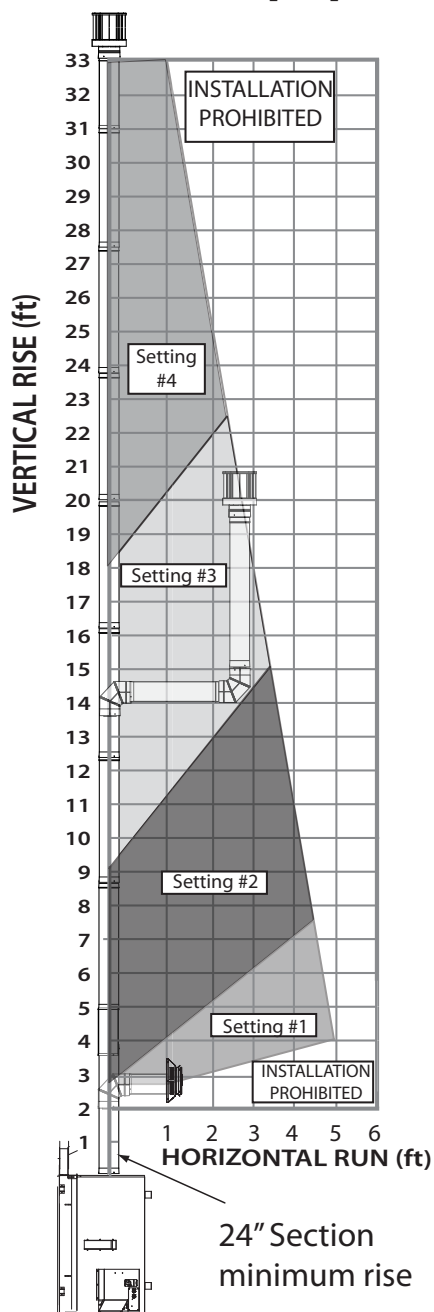
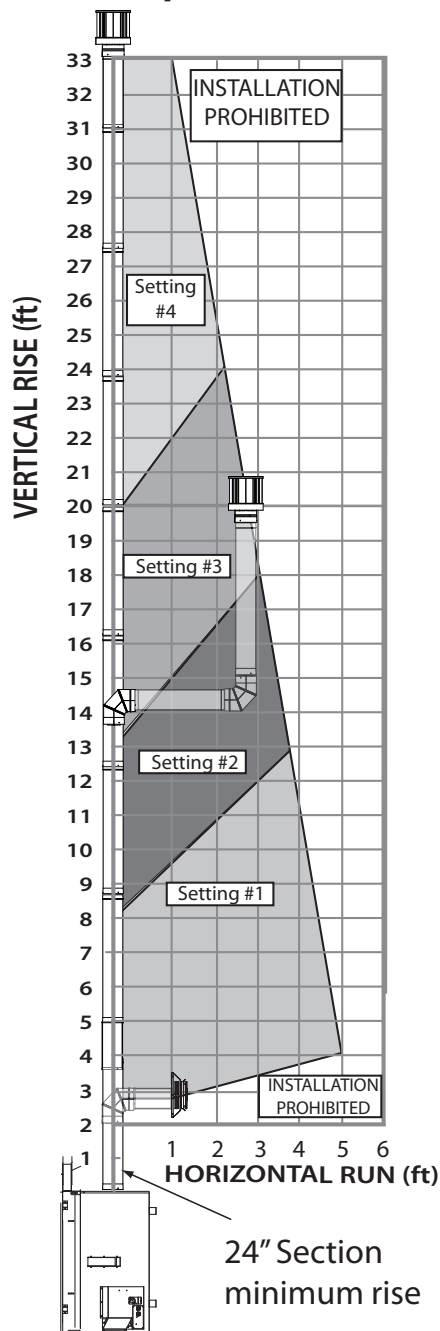

Figure 64: 8" x 11" NG Vent Graph
Figure 65: 8" x 11" LP Vent Graph
***Note:** Be sure to use the proper diagram depending on if your unit uses Natural Gas (Figure 64) or Propane (Figure 65).